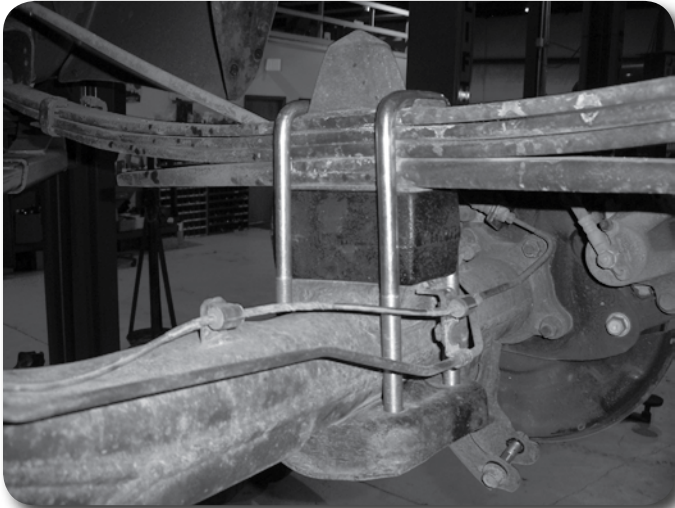

Figure 54
8. With the lift block installed, install the new u-bolts, nuts and washers **Figure 54**. Snug u-bolts but do not torque at this time. Final torque will be done with the weight of the vehicle on the suspension.